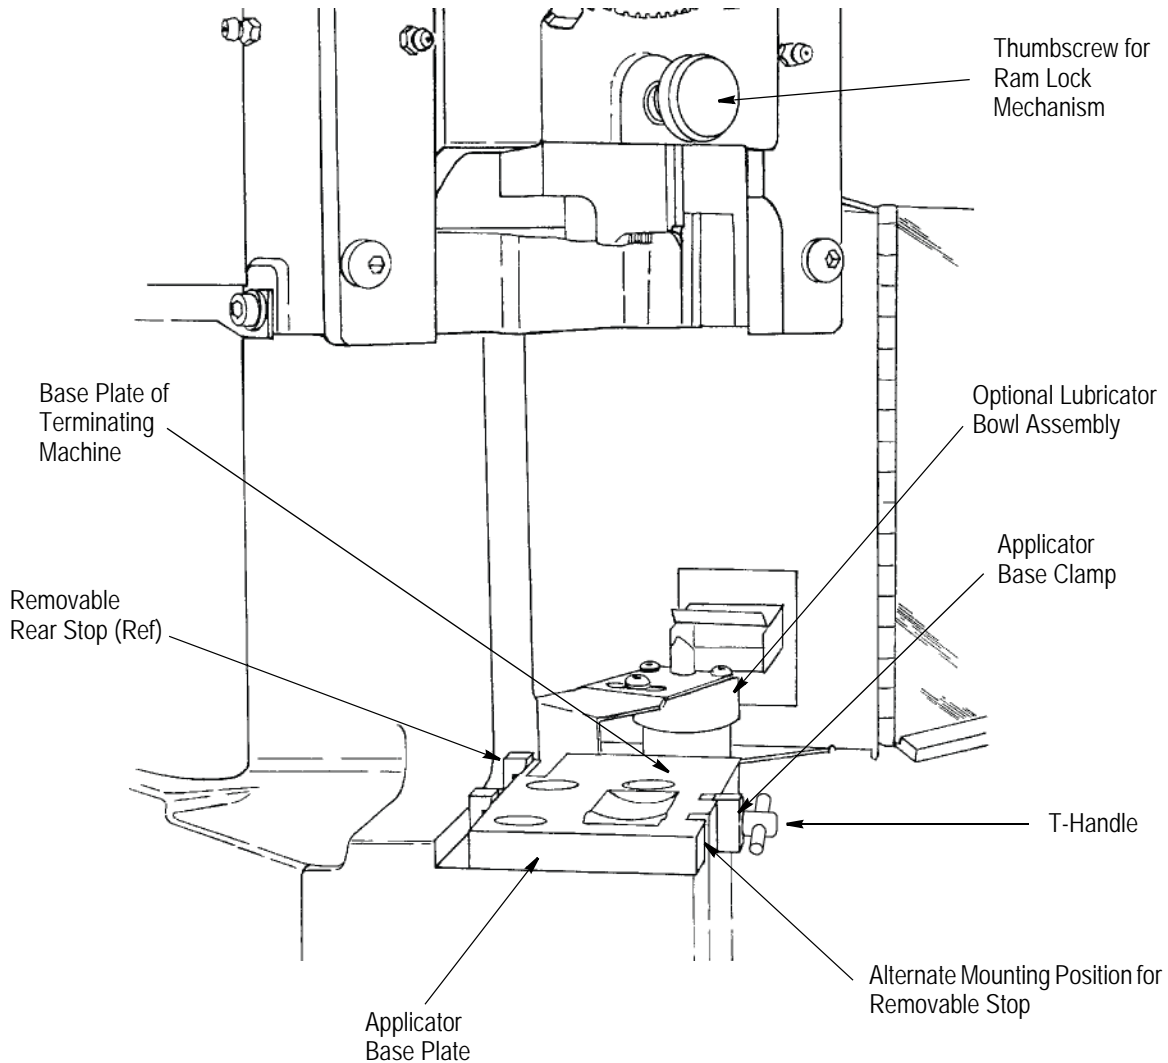

Figure 11
1. Loosen the T-handle and slide the applicator base clamp down. See Figure 11.
When using Applicator 567200-2 (originally intended for use with the AMP-O-ELECTRIC Model "K" Terminating Machine), remove the T-handle, the applicator base clamp, and the removable rear stop located on the right side of the base plate. Re-install the rear stop at the alternate mounting position on the base plate. See Figure 11.